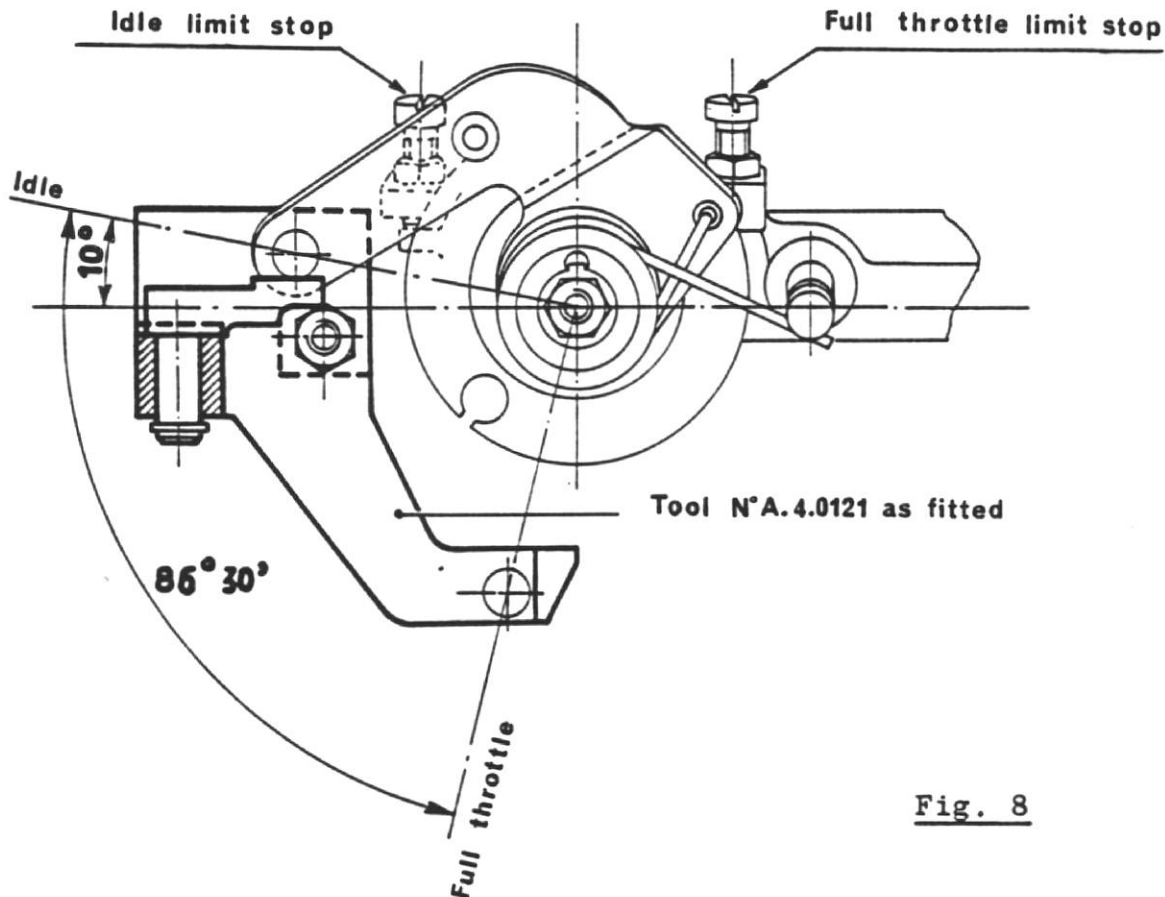

Fig. 8
With hot engine (over 158°F - 70°C) and the standard thermostat fitted, check with a feeler gauge that clearance between the control unit input lever and its reference screw is .012 to .024" (.3 to .6 mm) (the nearer to .019" the better) when the relay crank is resting against the idle limit stop; if this is not the case, let the engine cool down then proceed as follows: first disconnect the push-pull rods (7) and (8) (see fig. 2), the cable from the relay crank sheave and the battery negative terminal; remove the cable clamps and fit the tool no. A.4.0121 (fig. 8) onto the studs. Adjust the idle stop screw until the ball joint just touches the reference plane of the tool and lock in this position.